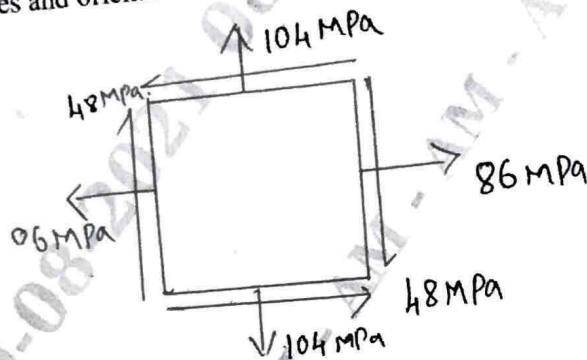

Fig Q4(b)
- b. An element with the stresses acting on it is as shown in Fig Q4(b). Using the Mohr's circle method, determine : i) Principal stresses and orientation of their planes ii) Maximum and minimum shear stresses and orientation of their planes.